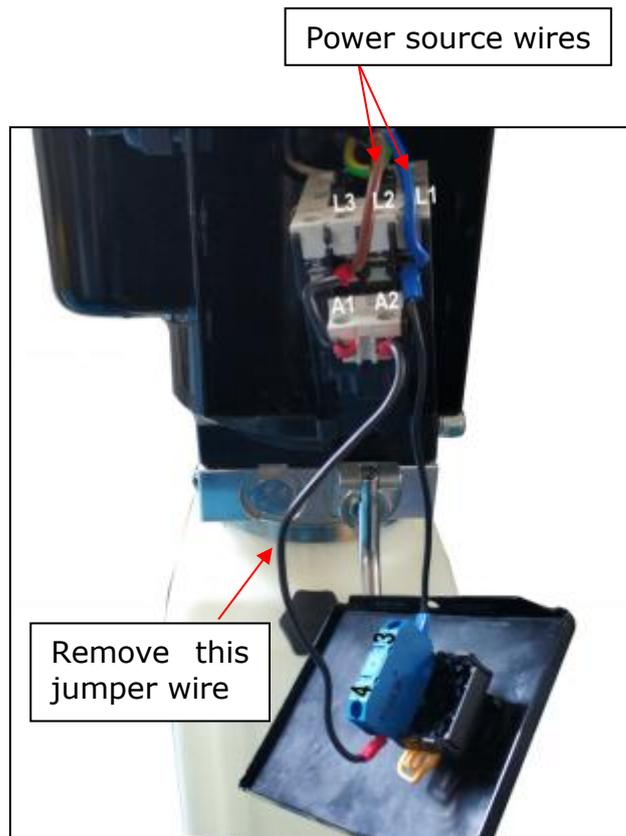
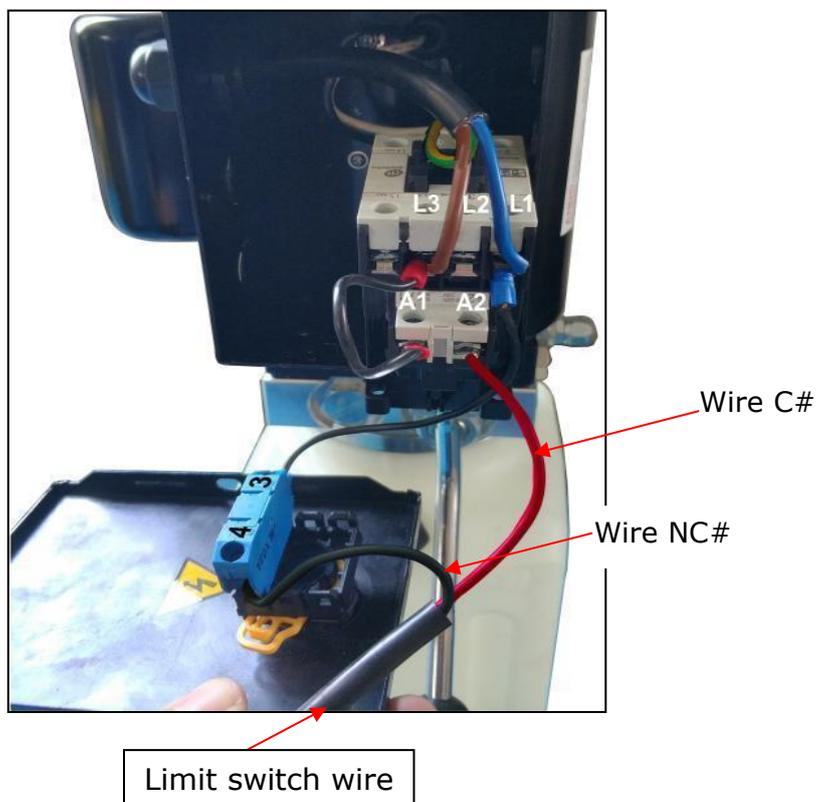

Fig. 40
Fig. 41
3. Connecting the limit switch: Remove the jumper wire connecting terminal 4# of control button and A2 of AC contactor firstly (See Fig. 40), then connect wire C#(black wire) of limit switch with terminal 4# of control button and connecting wire NC#(red wire) with terminals A2 of AC contactor respectively. (See Fig. 41)